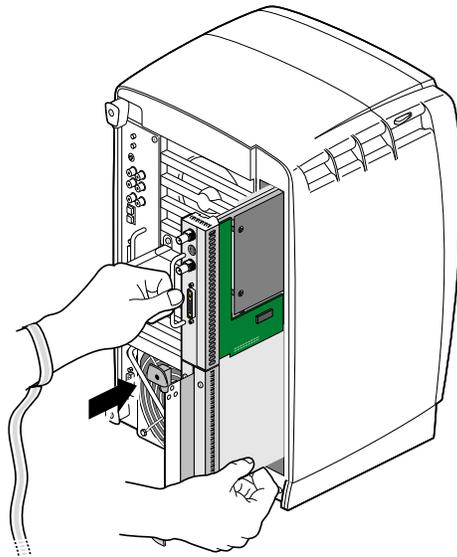

Figure 11 Inserting the XIO Tri-Module
Caution: Install the XIO Tri-Module with the VPro graphics I/O panel aligned with the top of the workstation, as shown in Figure 11. The board can be damaged if aligned with the bottom of the workstation.
2. Before you insert the XIO Tri-Module, make sure the sliding handles protrude in a locked position from the I/O panels, as shown in Figure 11.
If the sliding handles are flush with the I/O panels, the XIO Tri-Module will stop during insertion. Pull out the sliding handles until the sliding portion of the XIO Tri-Module looks like Figure 11.